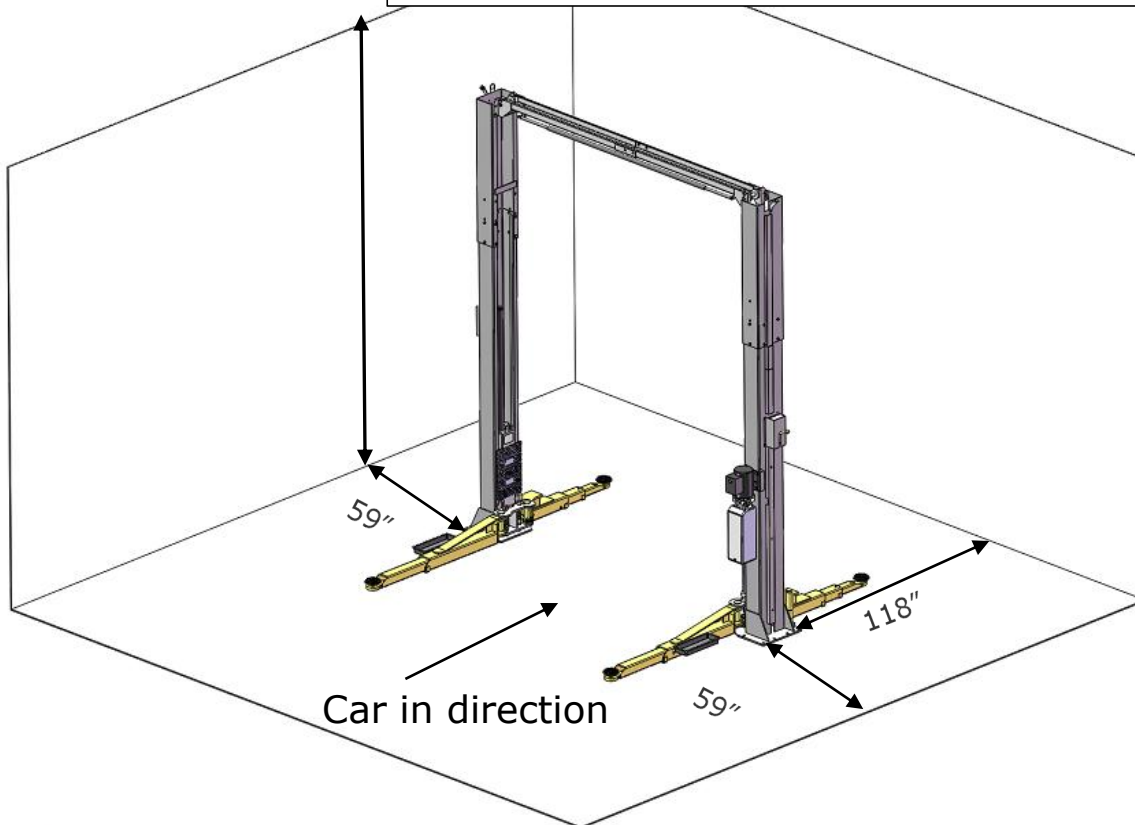

Fig. 7
1. Installation space: Ensure there is enough space for the lift. Accurately measure the front, back, side and top mounting dimensions and refer to the below figure data(See Fig. 7).